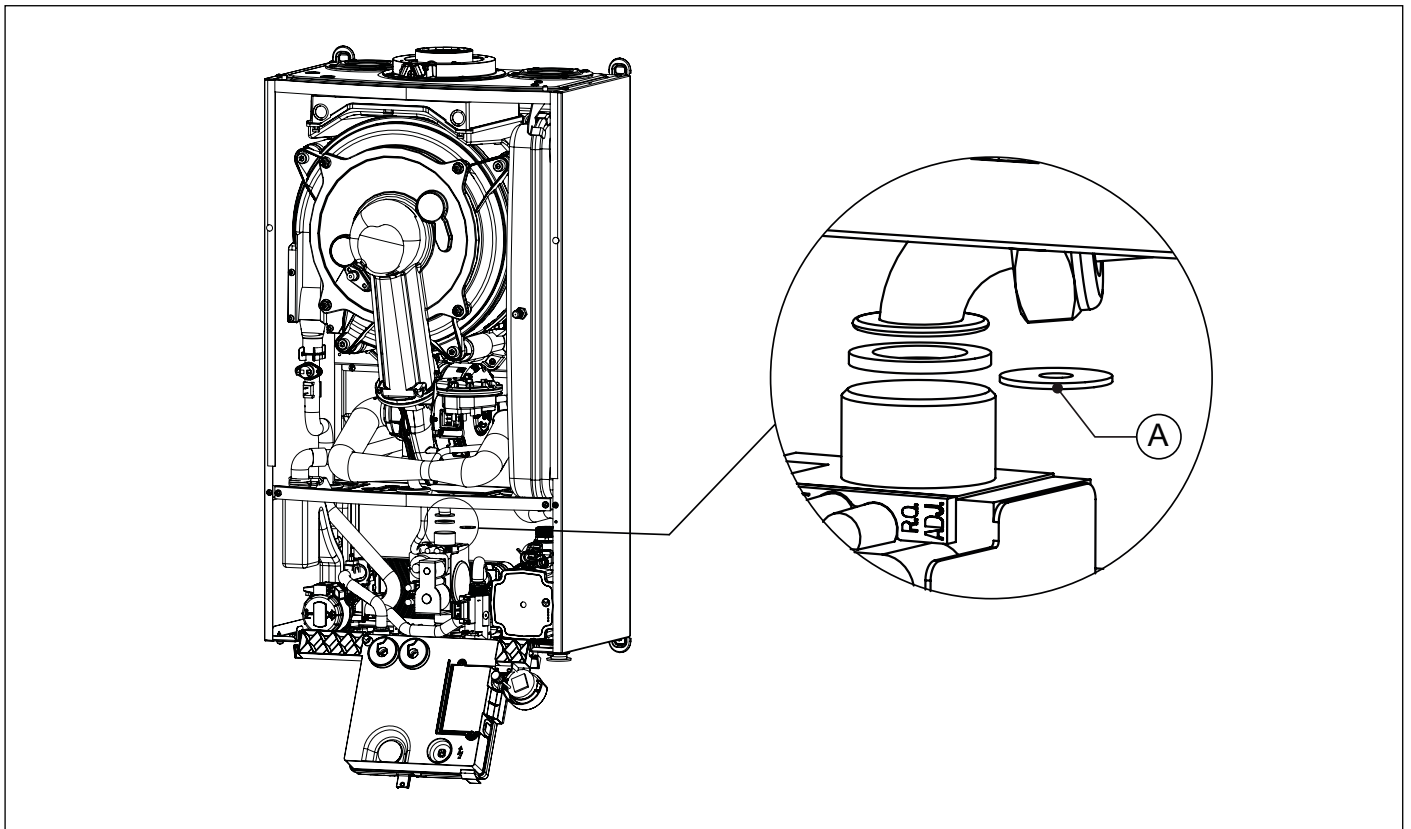

Fig. 24 Gas diaphragm replacement
- Disconnect the gas pipe from the gas valve (see Fig. 24 Gas diaphragm replacement).
- Replace the gas diaphragm (A) with the new gas type (see Fig. 24 Gas diaphragm replacement and Tab. 11 Gas diaphragm diameter (mm)).